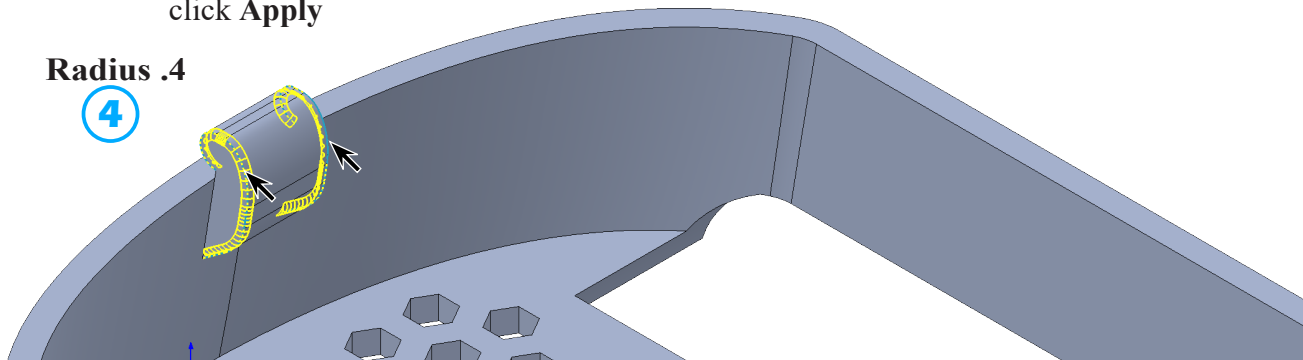

Fig. 119
④ **Radius**  **.4**
click **side edges of catch (2)**, Fig. 119